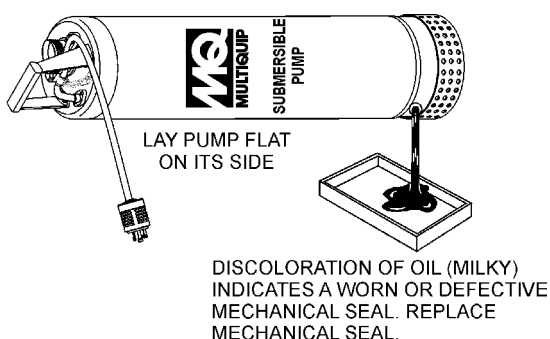

Figure 22. Lubrication Oil Inspection
1. Block the oil fill opening with a finger and roll pump to one side to drain (Figure 22) oil into a small transparent container.